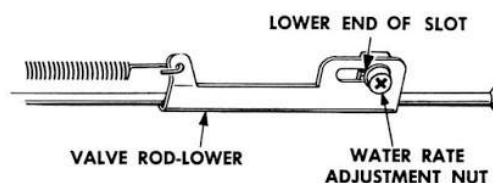
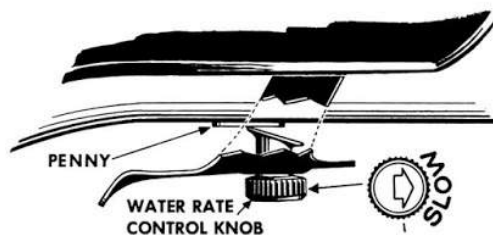

Fig. 10 Set Water Rate Adjustment Nut
Fig. 11
7. Place water control knob to "Slow" position and control lever on "Water" and observe the amount of water that is released. **Fig. 11.**
- b. To obtain proper Water Flow, remove tank, place water rate control knob to Slow position. Loosen water rate Adjustment Nut on valve rod lower and move nut to lower end of slot. **Fig. 10.** Place Floor Washer in horizontal position on bench, assemble tank, place penny between Water Rate Control Knob and Handle as shown in **Fig. 11.** Press control lever to water, release. Remove tank carefully to avoid moving adjustment nut out of position and tighten Water Rate Adjustment Nut.